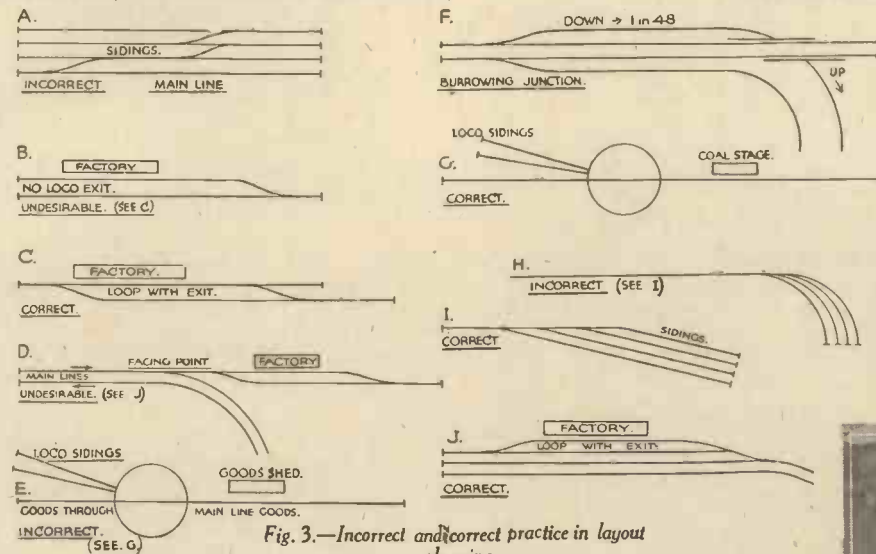

Fig. 3.—Incorrect and correct practice in layout planning.
section at all. Set them all on the branches or at termini, and lay down factory sites on little branch lines. I give in Fig. 3 some sketches of correct and incorrect, desirable and undesirable practice. (3) Under no circumstance allow for any shunting of trains off the main line. (4) Never put a turntable on any line which must be traversed by trains, or by engines on their way to any destination other than the stall of a loco shed. (5) In every passenger and goods station, leave a clear way out for an engine that has arrived on a main line train. Main line engines rarely do shunting excepting at way stations on a journey; and you must allow for a small engine to substitute the large one which has brought in the train, and for the passenger loco to get off on its journey or to the front end of its own coaches. (6) Provide some tracks purposely for the storage of coaches. (7) Make, if possible, in the front of a large loco shed, in such a way as the light falls fully on it, a "parade ground" for the engines when they have left the shed. This should consist of a foot or more of duplicate tracks according to the number of roads into the shed itself. (8) Never have a tunnel without means of ample and immediate access. Derailments always occur more in tunnels than anywhere else. (9) Install along one side of the whole layout a really long length of triple or duplicate track. It looks awfully well and gives great pleasure in running. I refer, of course, to straight, not curved track. (10) Make, if possible, your track in yard lengths rather than shorter, for the fewer joints in rails you have, the better. (11) Never stint yourself for a few yards of track in making your layout. You can make it at less than 2d. per foot, and the more you have without overcrowding, the better. The ideal model railway has only one